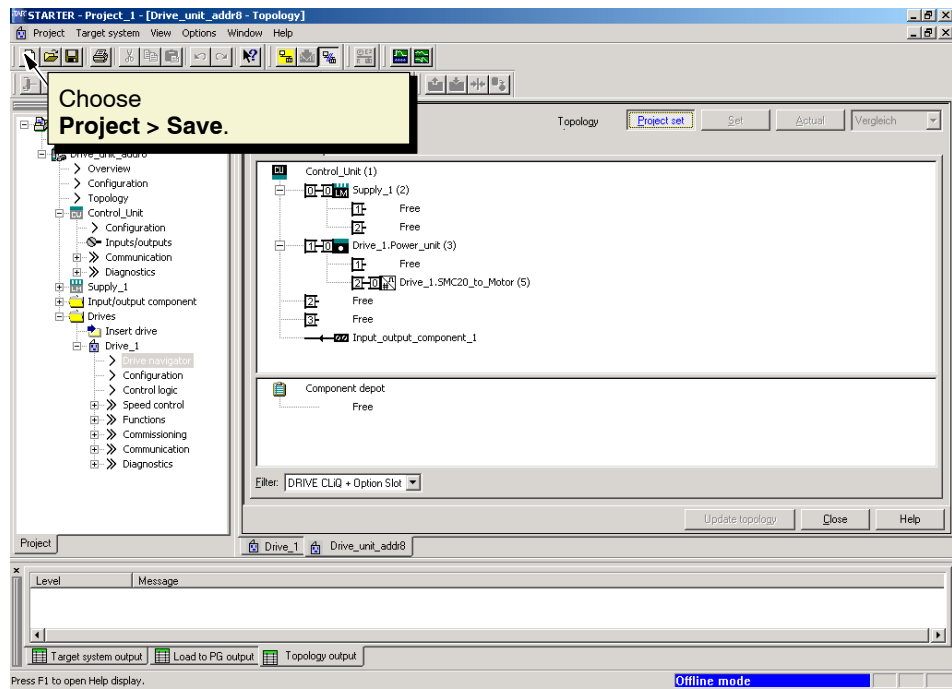

Fig. 5-21 Topology tree
10. In this window, check the topology and DRIVE-CLiQ connection and compare this with the actual topology (see Fig. 5-21).